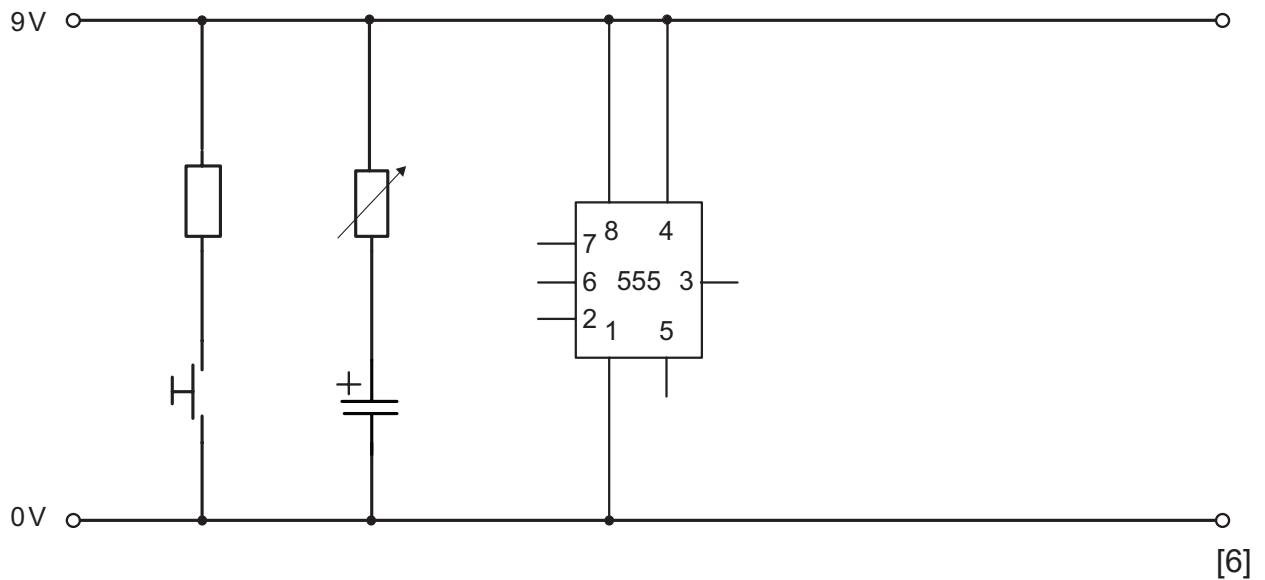

Fig. 5
(i) A partially complete timing circuit is shown in Fig. 5. Complete Fig. 5 to produce a monostable timing circuit.
- (vi) **Fig. 5** is to be developed to enable a buzzer to sound. The output of the 555 timer is insufficient to drive the buzzer directly. Complete **Fig. 5** to show how this could be made to happen. [6]